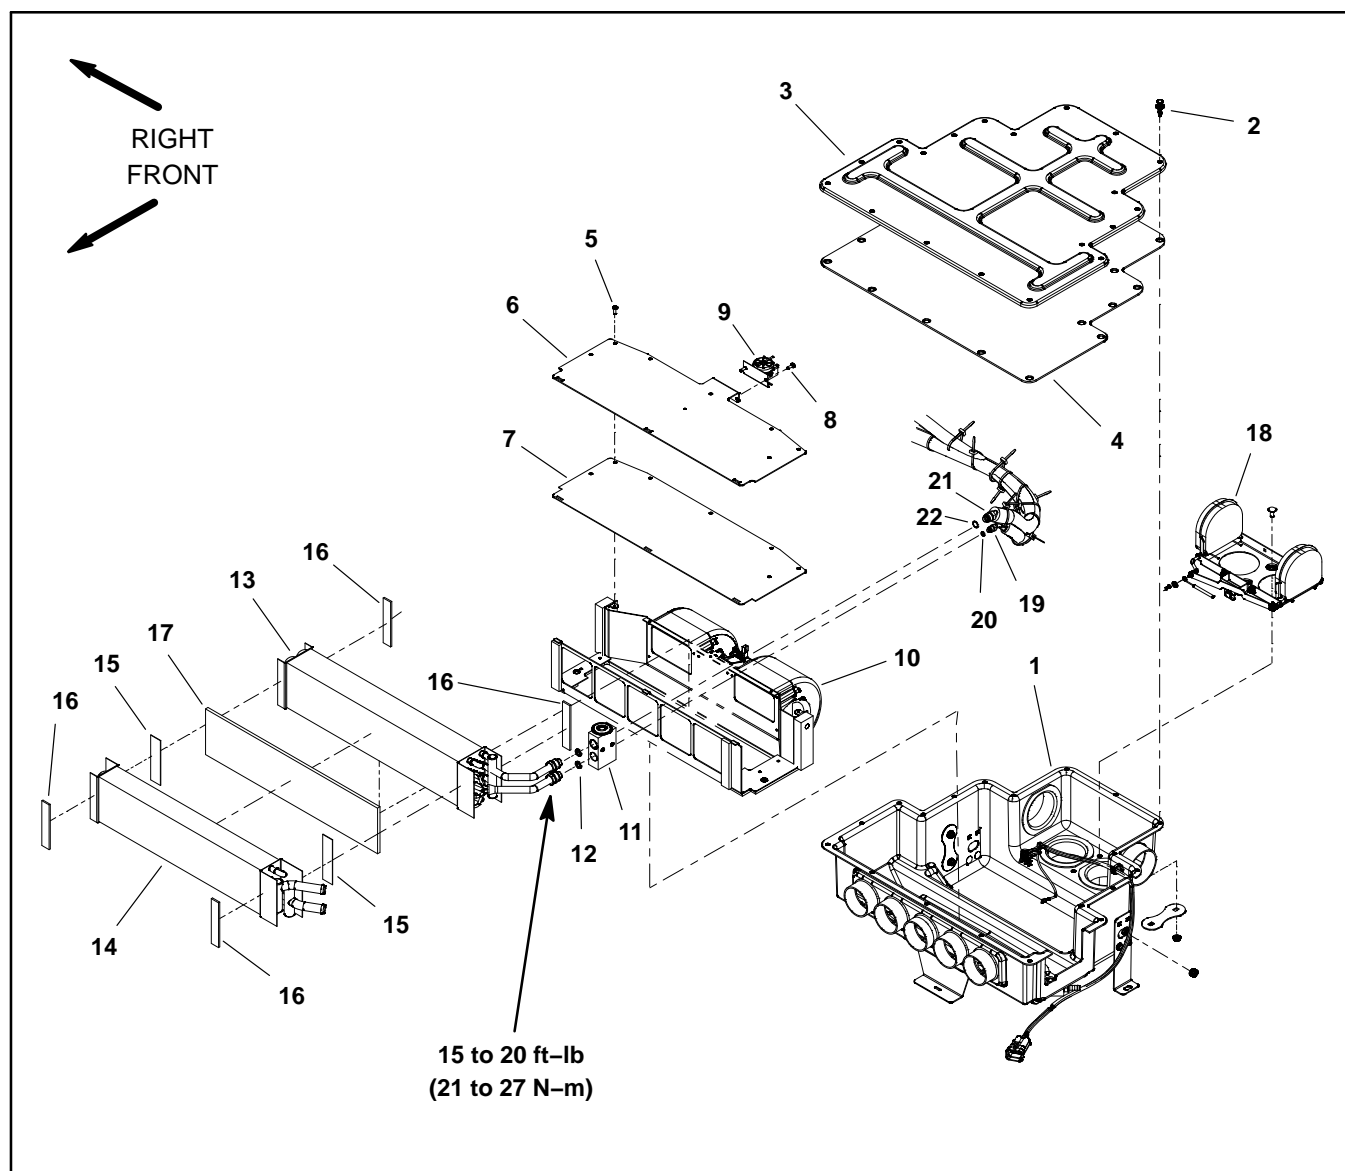

Figure 13
NOTE: The heater and evaporator cores can be removed and installed with the mixing box (item 1 in Figure 13) attached to the cab headliner.
Removal (Fig. 13)
9. Remove screws (item 5) that secure mount bracket cover to mount bracket. Lift cover and position it away from mount bracket taking care to not damage freeze switch or wires connected to the switch.
11. Separate heater and A/C evaporator cores as needed using Fig. 13 as a guide. The cores are secured to each other with double sided tape (item 10).
Installation (Fig. 13)
1. Assemble heater and A/C evaporator cores using Fig. 13 as a guide.
3. Position mount bracket cover to mount bracket taking care to not damage freeze switch or wires connected to the switch. Secure cover to mount bracket with removed screws (item 5).